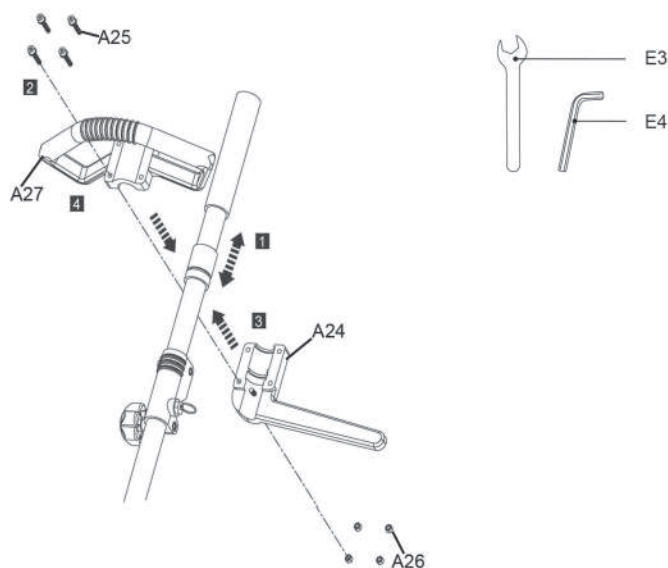

Fig. 2
3. Secure the front handle in position with bolt (A25) and nut (A26) (Fig. 2).